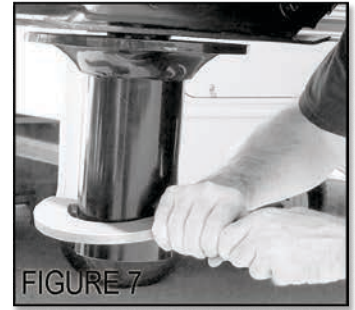

FIGURE 7
7. Locate the spanner wrench and a “cheater pipe” (not to exceed 4ft). Insert spanner wrench into the punched hole near the bottom of the base (**see figures 7 and 8**). Place cheater pipe over spanner wrench and tighten to 400 ft-lbs torque (this will be as much as two men can generate by pulling together on the end of your cheater pipe). This will finish seating the threaded collar onto the split collar and ensure a very strong grip on the king pin.